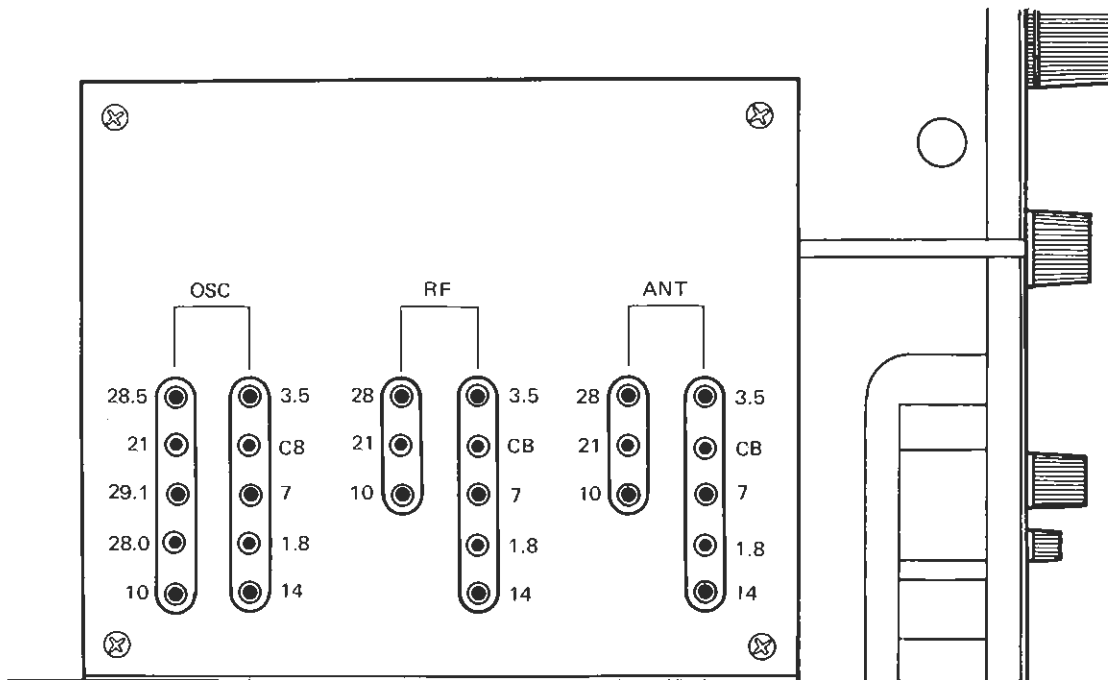

Fig. 5
### A. OSC coil adjustment (Refer to Fig. 5)
#### (1) Purpose (Refer to Fig. 5)